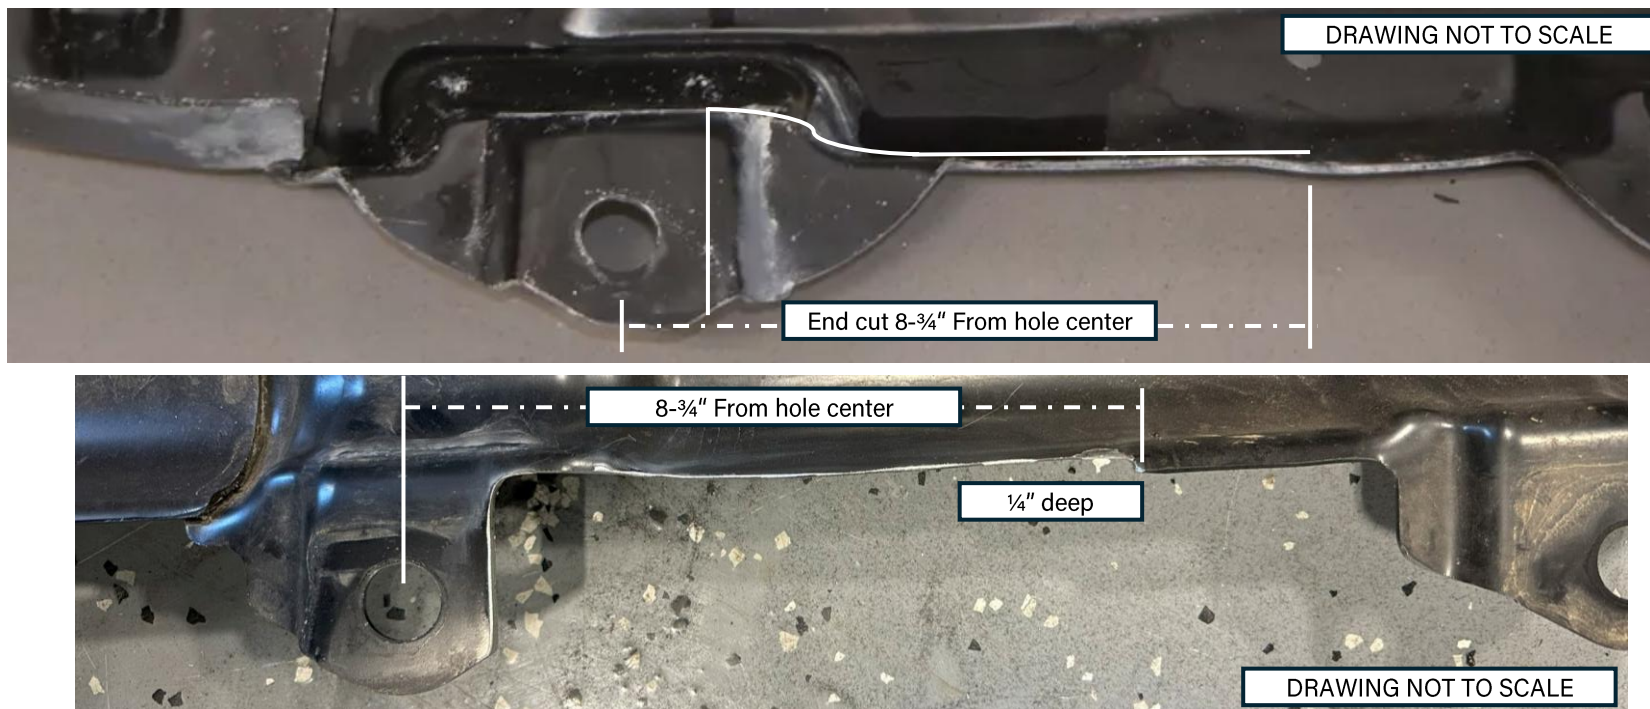

Figure 29: Rear-most gas tank skid plate mount before and after clearance cut
24. To accommodate the new frame brackets on the gas tank side, one of the gas tank mounts must be trimmed. Please see Figure 29 for a template on where to cut the rear-most frame rail mount on the tank. Use a cut-off wheel to make the cut. **REMOVE THE GAS TANK OUT OF THE SKID BEFORE CUTTING. Cut  $\frac{1}{4}$ " deep, and  $8\text{-}\frac{3}{4}$ " from the hole center.**